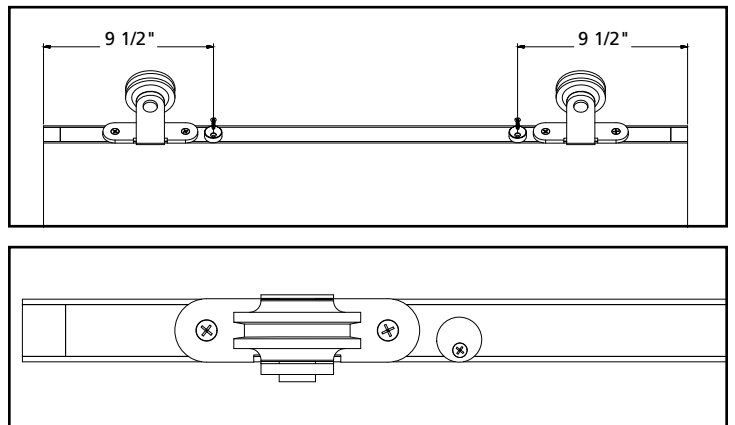

Figure 4. Pre-drilling Anti-Jump Disk
1. Position the disks as seen in Figure 4.
4. Secure with (2) #8 X 3/4" wood screws (keep anti-jump disk loose enough for future rotation; to be tightened in later steps).